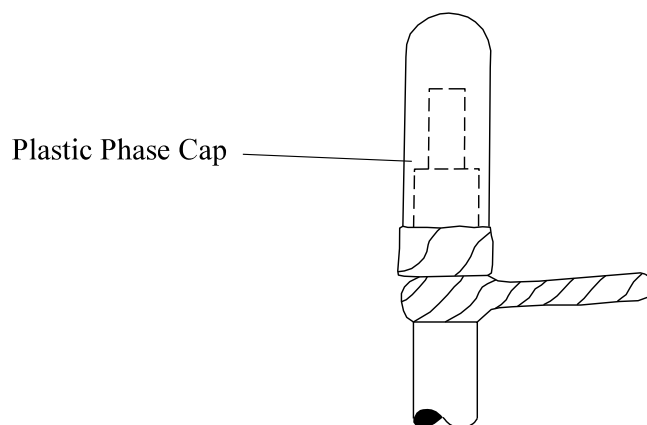

Fig 4
- 8.12. Carefully lift the cut-out off the service cables. Once the cut-out has been lifted off the service cable, exposing the live phase conductor the appropriate hard nylon temporary core protection cap shall be slipped over the phase conductor. Once in place the temporary core protection cap is to be taped on to the phase conductor using two layers of black PVC tape - Fig 4.